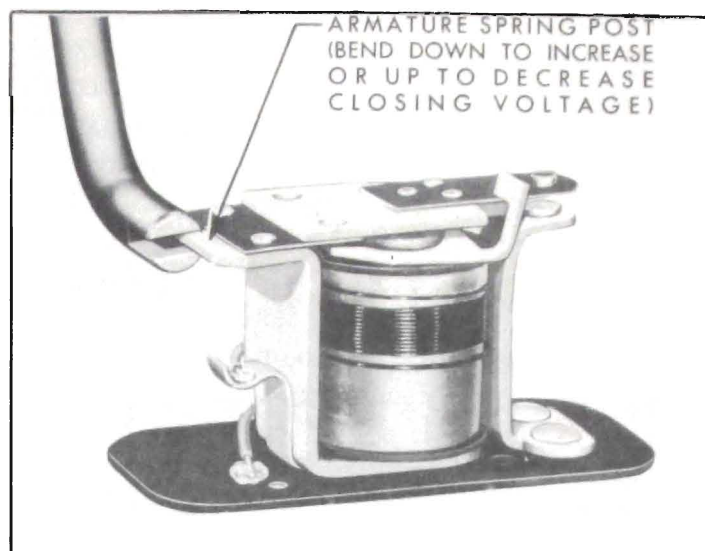

Figure 10-117—Adjustment of Horn Relay Closing Voltage
9. If closing voltage is not within specified limits, bend the armature spring post as required. Bend down to increase closing voltage or bend up to decrease closing voltage. See figure 10-117.